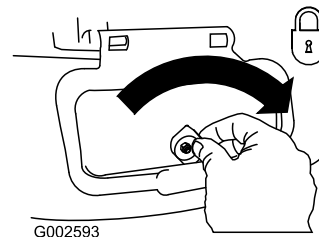

Figure 33
**Important:** Lock the side discharge door after you close it (Figure 33).